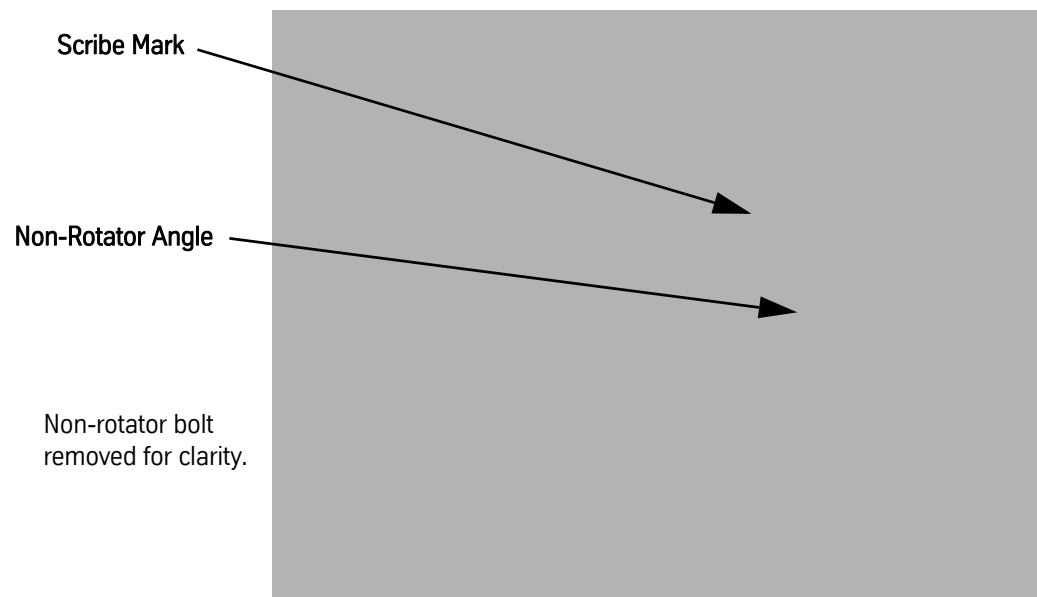

Figure 33 - Measure the Non-Rotator Angle Movement
- d. Scribe a mark on the gear case at the non-rotator angle. This mark should extend approximately 1" above the non-rotator angle. See Figure 33.